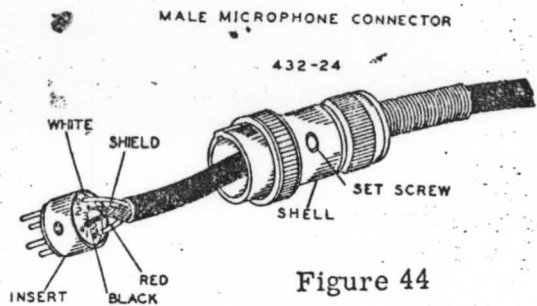

Figure 44
- (✓) Prepare the male microphone connector (#432-24) by removing the small screw from the shell of the connector. See Figure 44. Slide the shell over the microphone cable, spring end first. Strip 1 1/2" of outer insulation from the cable and unbraid the shield. Now twist the shield to form a single pigtail. Strip all inner conductors 3/4" and tin.